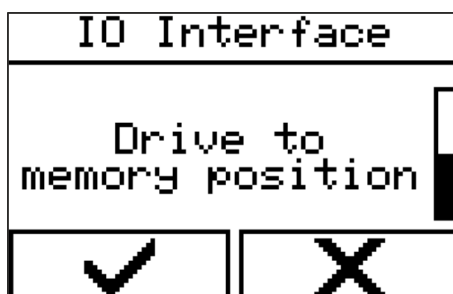

Fig. 118: Selecting a menu
1. → Select the menu via 'Control' → 'Memory positions for IO Interface' → 'Drive to memory positions' (Fig. 118).